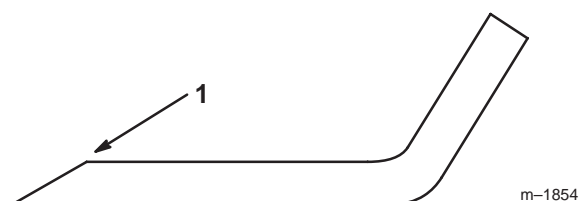

Figure 41
1. Use a file to sharpen the cutting edge at both ends of the blade (Fig. 41). Maintain the original angle. The blade retains its balance if the same amount of material is removed from both cutting edges.